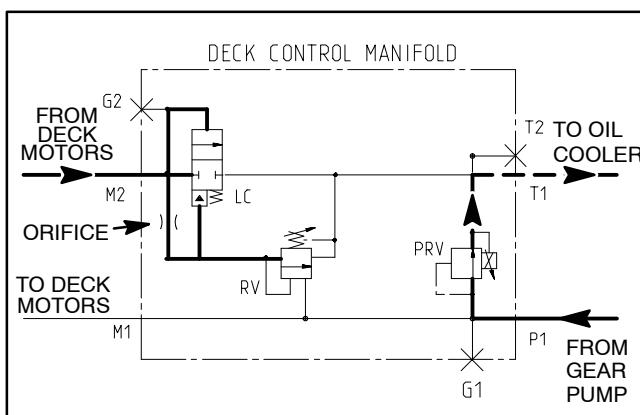

Figure 16
The inertia of the rotating cutting blades increases pressure of the oil return to the deck control manifold. This pressure increase along with the orifice in the manifold and the shifted relief valve (RV) cause logic cartridge (LC1) to shift (Fig. 16). The oil from the deck motors is finally directed through the orifice and to relief valve (RV) which bleeds the residual pressure in the circuit and allows the blades to stop in a controlled manner (Fig. 17).